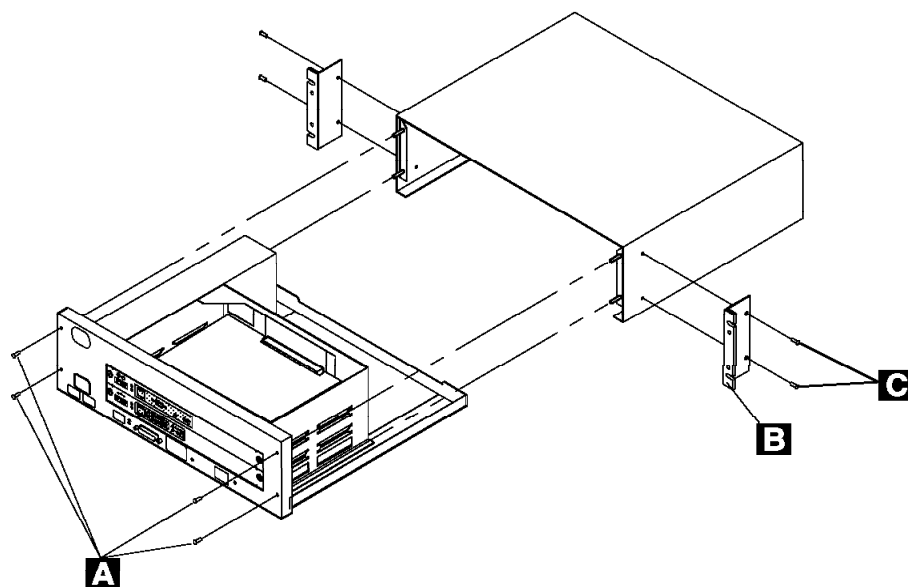

Figure 8. Attaching the rack-mounting brackets to the ethernet bridge.
- b. Remove the four retaining screws **A** on the front of the ethernet bridge. See Figure 8.
- 6. If you have removed the chassis (the inner power supply and planar board combination), slide it back into the cover and replace the four retaining screws, which you removed earlier. See Figure 8 on page 19.